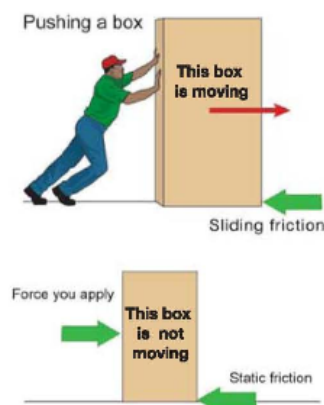

Figure 5.9: The direction of the force of friction is opposite the direction the box is pushed.
- Direction of the friction force** We think of friction as a force, measured in newtons just like any other force. You draw the force of friction with a force vector. To figure out the direction of the vector, always remember that *friction resists motion between surfaces*. The force of friction acting *on* a surface always points opposite the direction of the motion *of that surface*. Imagine pushing a heavy box across the floor (Figure 5.9). If the box is moving to the right, then friction acts to the left, against the surface of the box touching the floor. If the box were moving to the left instead, the force of friction would act toward the right. This is what we mean when we say friction resists motion.
- Static friction** **Static friction** keeps an object that is standing still (at rest) from starting to move. Imagine trying to push a heavy box with a small force. The box stays at rest because the static friction force acts against your force and cancels it out. As you increase the strength of your push, the static friction also increases. Eventually, your force becomes strong enough to overcome static friction and the box starts to move (Figure 5.9). The force of static friction balances your force up to a limit. The limit of the static friction force depends on the types of surfaces, the weight of the object you are pushing, and the angle of incline of the surface.